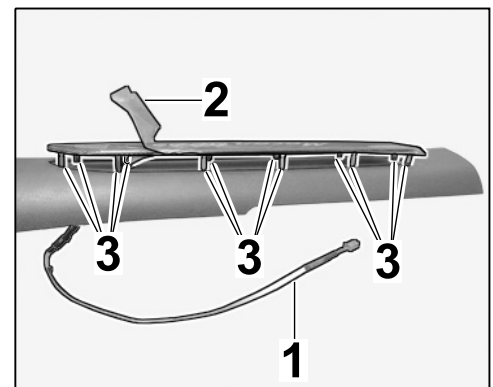

Figure 22
3.3.1 Pull protective film off the door entry guard (\Rightarrow Figure 22).
Carefully guide tabs on the illuminated door entry guard into the mounting points on the (inner) door sill trim (⇒ *Figure 22*).